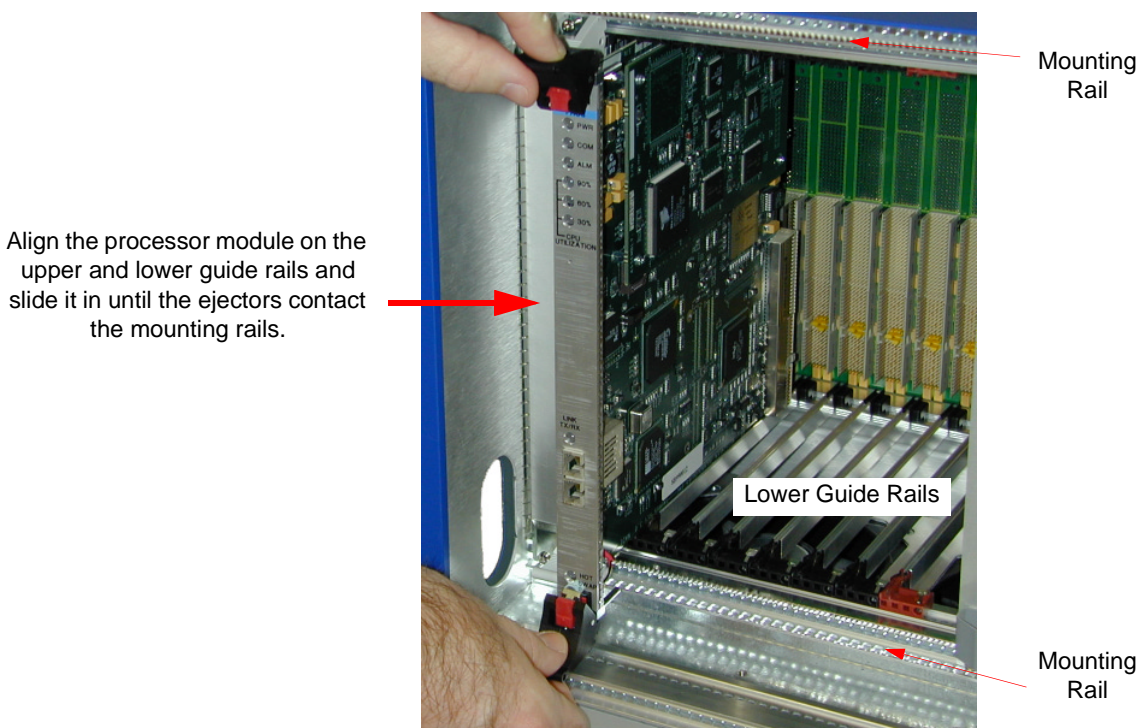

Figure 2-11 Installing a Processor Module
2. Slide the module in, as shown in Figure 2-11, until the ejectors contact the mounting rail at the edge of the circuit board cage.